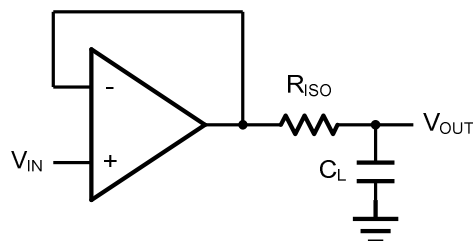
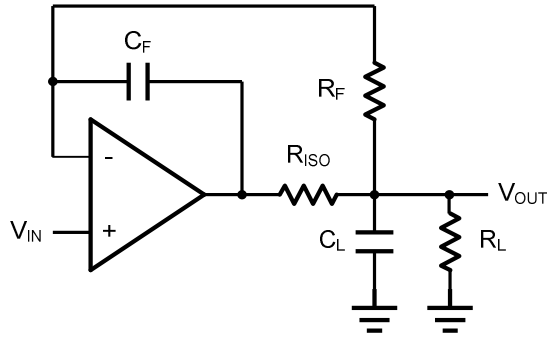

Figure 2. Indirectly Driving a Capacitive Load Using Isolation Resistor
Figure 3. Indirectly Driving a Capacitive Load with DC Accuracy
The HGAx335 family is optimized for bandwidth and speed, not for driving capacitive loads. Output capacitance will create a pole in the amplifier's feedback path, leading to excessive peaking and potential oscillation. If dealing with load capacitance is a requirement of the application, the two strategies to consider are (1) using a small resistor in series with the amplifier's output and the load capacitance and (2) reducing the bandwidth of the amplifier's feedback loop by increasing the overall noise gain. Figure 2. shows a unity gain follower using the series resistor strategy. The resistor isolates the output from the capacitance and, more importantly, creates a zero in the feedback path that compensates for the pole created by the output capacitance.
The circuit in Figure 3 is an improvement to the one in Figure 2. R_F provides the DC accuracy by feed-forward the V_{IN} to R_L . C_F